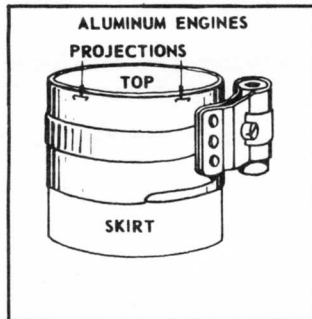

FIGURE 7-7
2. Install the ring compressor No. 19070 or No. 19230 on the piston as shown in figure 7-7.